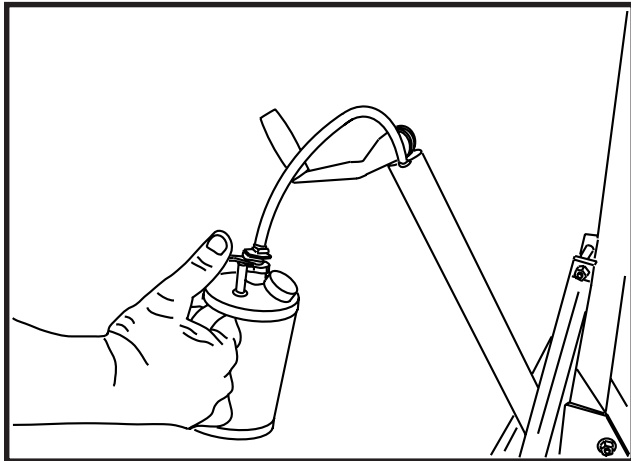

FIGURE 8
9. Add a small amount of oil to the lift jack. See Figure 8. Oil should be added after every 25 hours of operation and after washing unit.